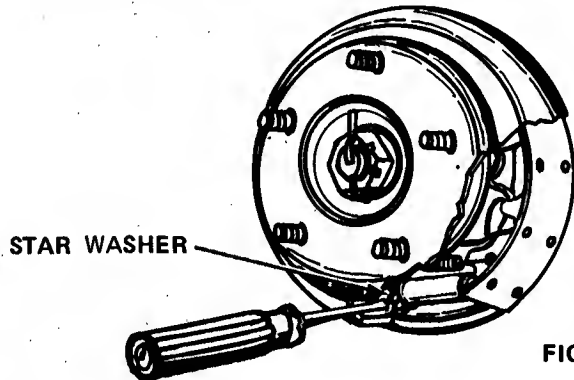

FIGURE 22
3. Insert a screw driver in the slot in the brake drum (See Figure 22) and tighten the star washer until the brakes are snug and the drum does not turn. Back off the star washer one full turn.